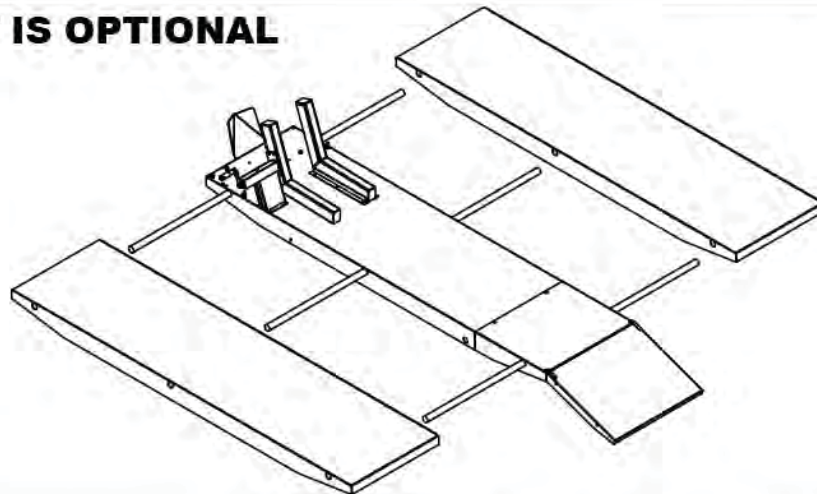
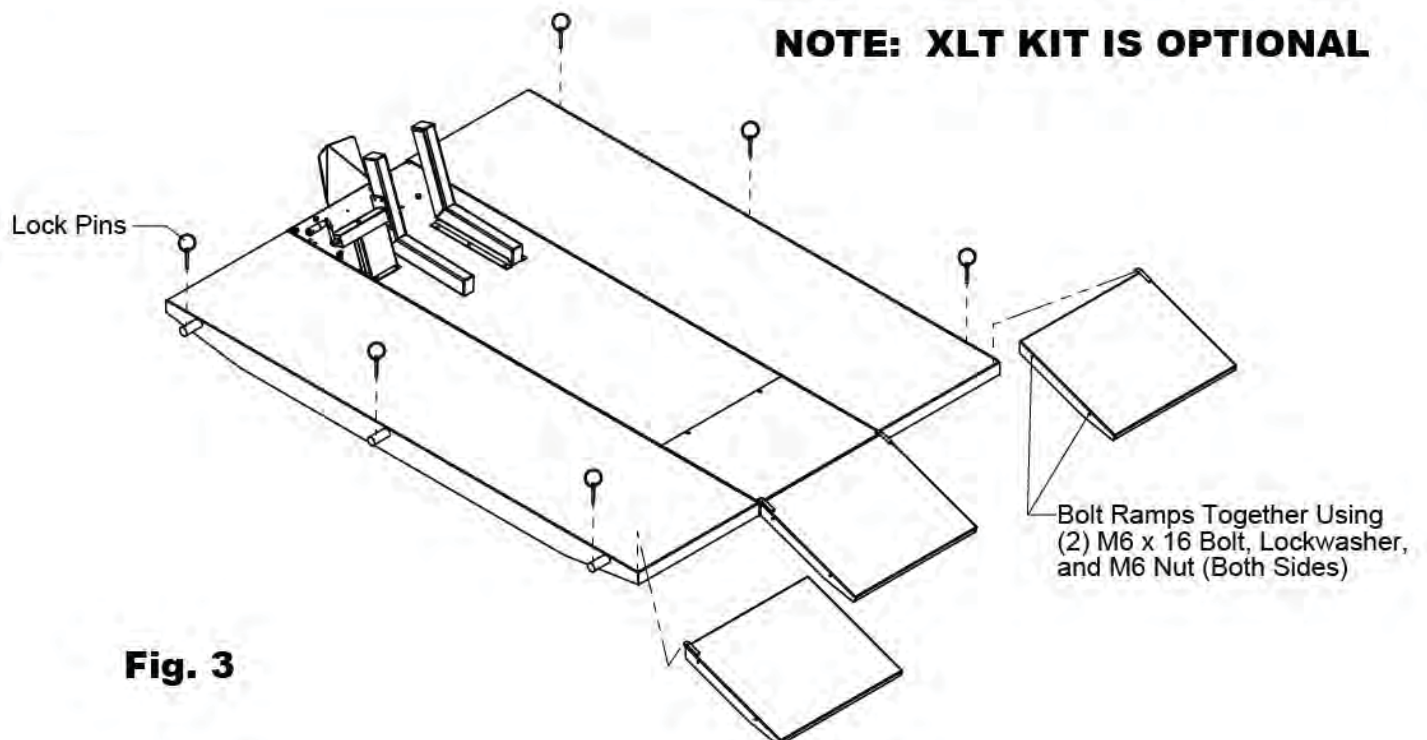

Fig. 2
Fig. 3
- STEP 1.** Run the tubes through the holes on the side of the table (holes will be at the ends and the middle). Install the side extensions onto the protruding tubes, see Fig. 2. Use locking pins provided to secure the tubes as seen in Fig. 3.
- STEP 2.** Drop the ramps for the side extensions in place as shown, Fig. 3. Attach the ramp side extensions using M6 x 16 bolts, lockwashers, and nuts.